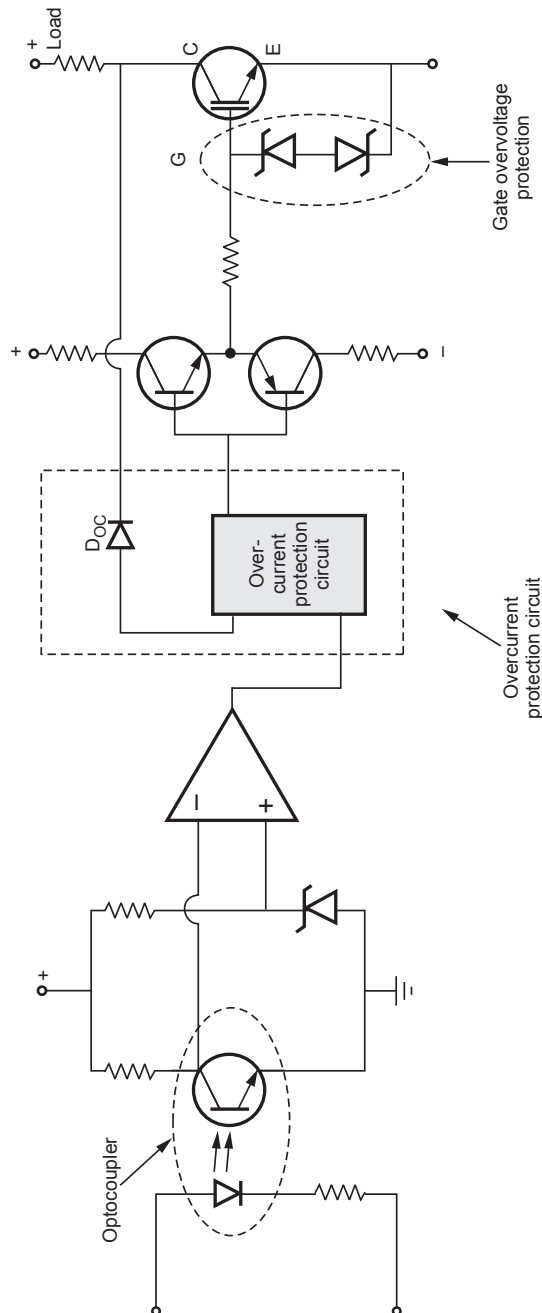

Fig. 1.6.12 Overcurrent protection
- The drain overcurrent of IGBT is continuously monitored. If overcurrent is detected, then drive of IGBT is disabled. This is normally incorporated in drive circuit of IGBT. Fig. 1.6.12 shows drive circuit of IGBT with overcurrent protection.